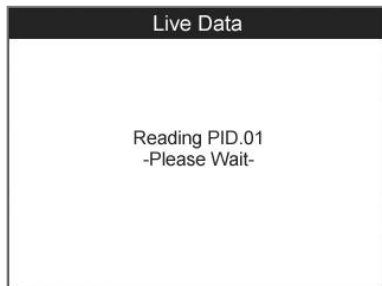

Figure 5.9
- 2) Wait a few seconds while the scan tool validates the PID MAP (Figure 5.9).